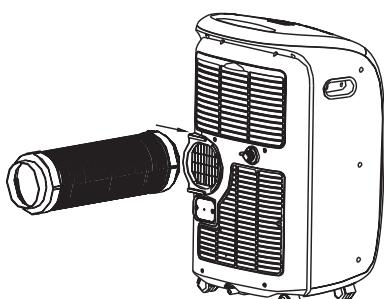

Fig. 18
2. Push the Exhaust hose into the air outlet opening along the arrow direction (See Fig.18).